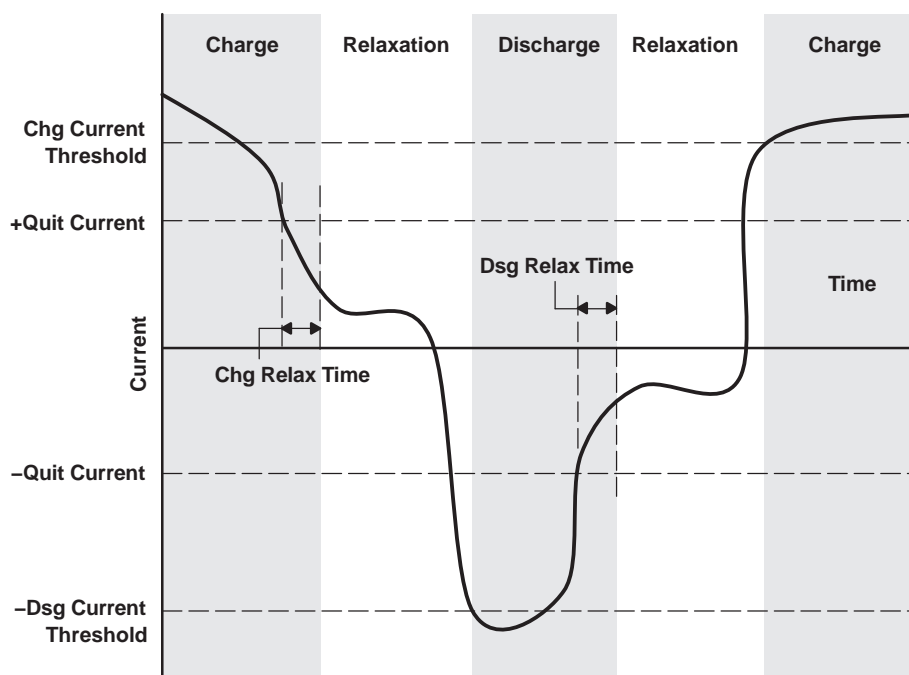

Figure 14. Example of the Algorithm Operation Mode Changes With Varying `SBS.Current()`
The algorithm differentiates between *charge*, *discharge*, and *relaxation* modes of operation. During *charge* mode, the `SBS.OperationStatus()` [DSG] bit is cleared, and during *discharge* and *relaxation* mode, it is set. Entry and exit of each mode is controlled by Data Flash (DF) parameters in the subclass Gas Gauging: Current Thresholds section as illustrated in Figure 14. Charge mode is exited, relaxation mode is entered when `SBS.Current()` goes below `DF:Quit Current` and after a `DF:Chg Relax Time` period. Discharge mode is entered when `SBS.Current()` goes below `DF:Dsg Current Threshold`. Discharge mode is exited, relaxation mode is entered when `SBS.Current()` goes above `—DF:Quit Current` threshold and after a `DF:Dsg Relax Time` period. Charge mode is entered when `SBS.Current()` goes above `DF:Chg Current Threshold`.